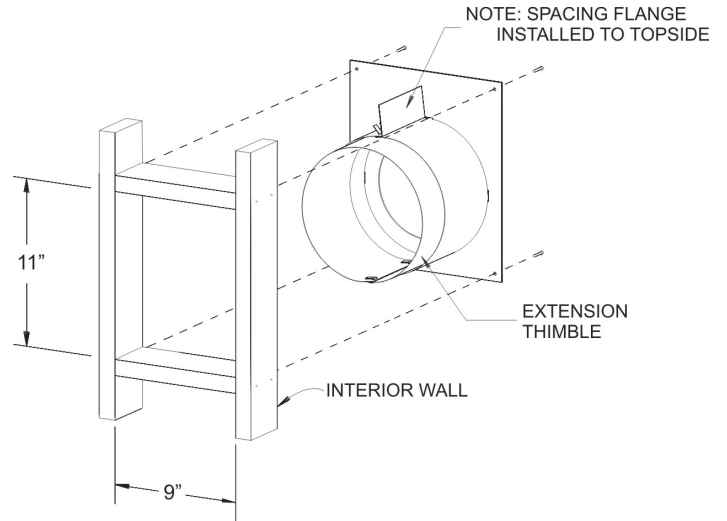

Figure 37
2. Cut hole in wall for wall thimble/firestop assembly into your combustible wall. See **Figure 37**. Note: On brick or block exterior wall a 7" (178 mm) diameter hole needs to be cut.
Measure the total wall thickness to determine whether or not the extension thimble is to be used. If the combustible wall depth is over 5 3/8" (137 mm), then the extension thimble should be used. See **Figure 37**.
3. Install the wall thimble assembly through the framed opening so the firestop plate is on the interior wall. See **Figure 37**. Telescope section should extend all the way through the exterior wall. Attach with (4) 10 x 1" screws.